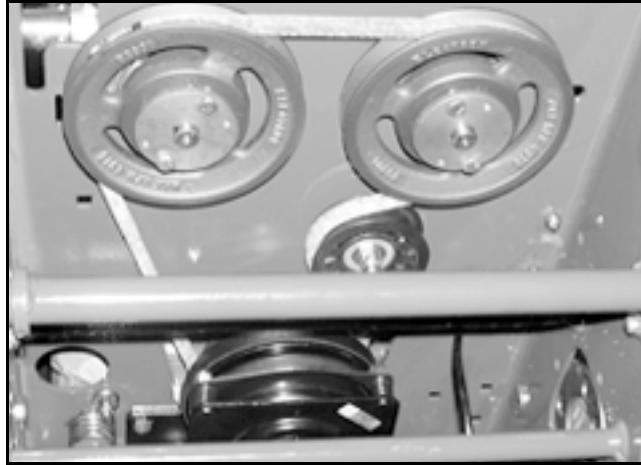

Figure 8
4. TO CHANGE THE PUMP DRIVE BELT: See Figure 8.